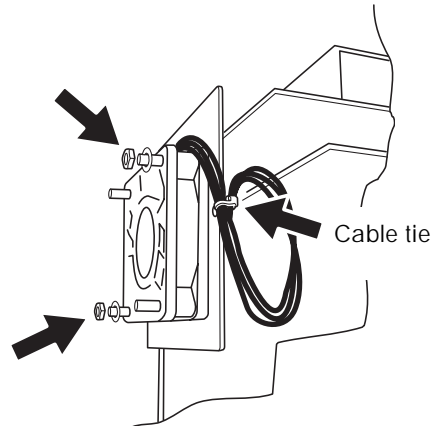
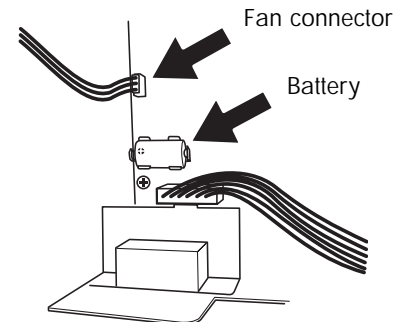

Figure 10.1d Fan replacement details
Figure 10.1e Battery and fan connector
This reveals the internal structure of the instrument. Figure 10.1d shows the locations of the fan (A) and the battery (B). Figures 10.1d and 10.1e show details.
1. Disconnect the fan connector, located as shown in figure 10.1e, above.
8. Coil the harness neatly, and mate the fan connector (located as shown in figure 10.1e). Secure the harness coil to the chassis, using a cable-tie (figure 10.1d), ensuring that the harness is not strained.